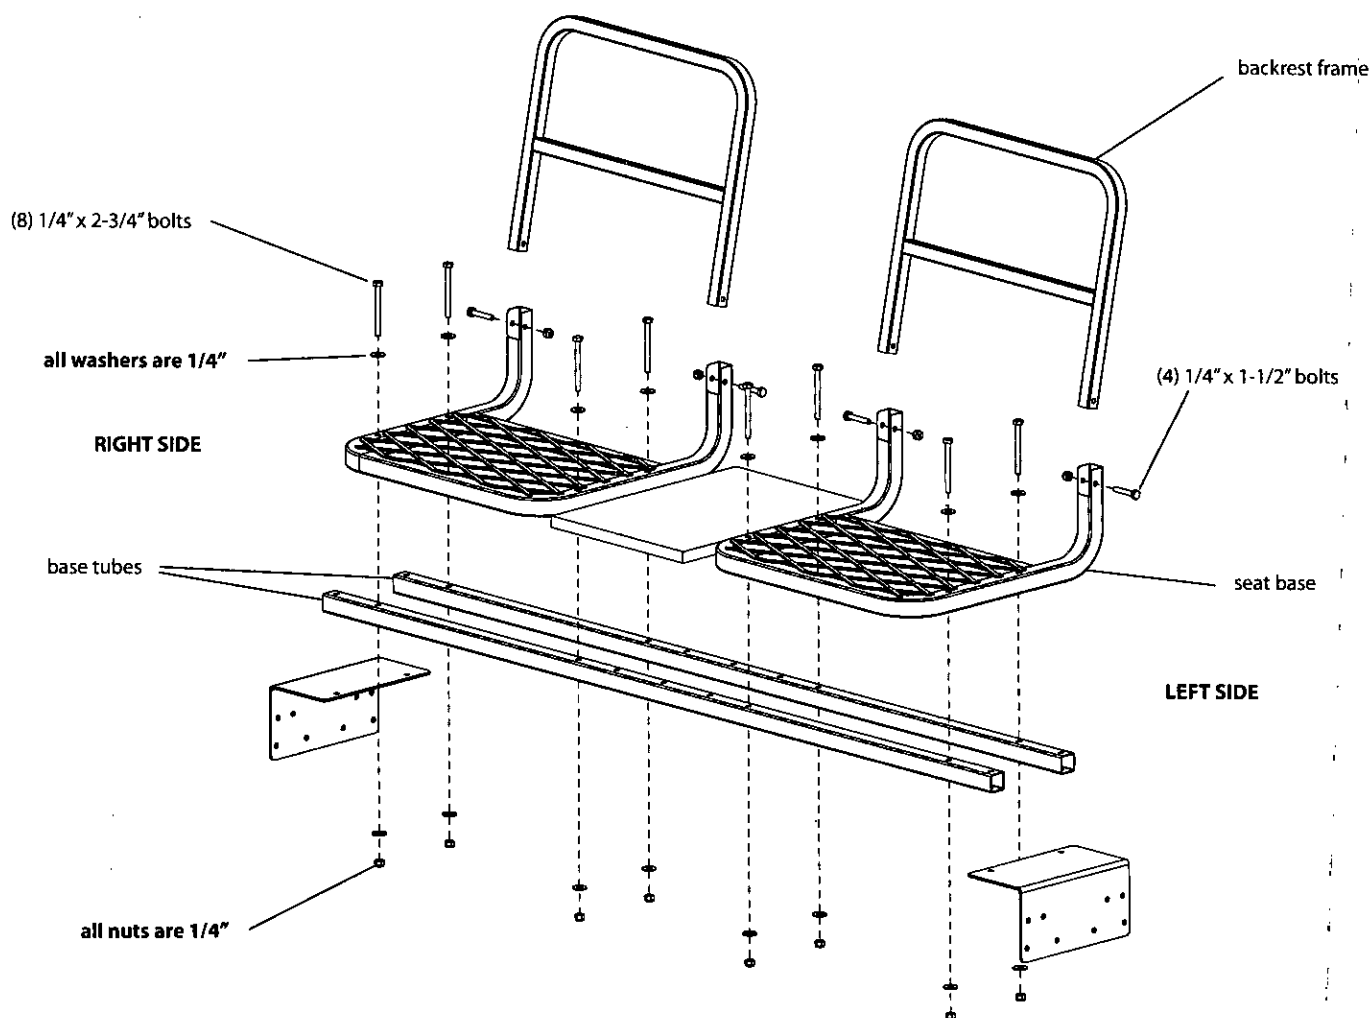

Figure 3B
5. Attach (2) seat bases (68435) to top of base tubes using (8) provided 1/4-20 x 2-3/4" bolts, nyloc nuts and (16) washers. **SEE FIGURE 3B.**
6. Attach backrest frame (68433) to each seat base using (4) provided 1/4-20 x 1-1/2" bolts and nyloc nuts. **SEE FIGURE 3B. You may now tighten all nut & bolt assemblies. Be sure not to over tighten or crush tubing when tightening!**
7. Attach (2) removable seat cushions (68162) to the top of seat bases and snap the side release buckles together. Pull straps tight so seat is not loose.
8. Attach (2) removable backrest cushions (68163) to the backrest frames and secure with Velcro.